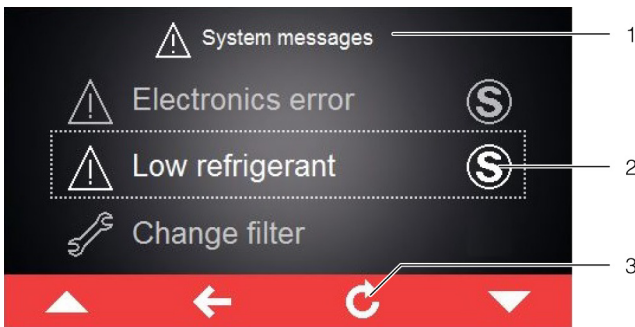

Fig. 46: Screen showing error messages
If an error message applies that cannot be resolved by the operator himself and which is not reset automatically, the "Service" symbol will appear after the error message and in the control bar next to the symbol for system messages (fig. 46, item 2).